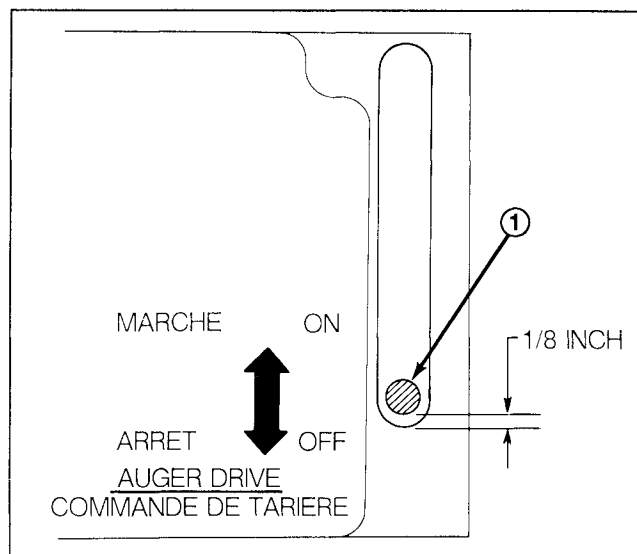

Figure 29
1. Move auger drive control backwards to OFF (disengage) (Fig. 29). **BACK EDGE OF AUGER DRIVE CONTROL MUST BE 1/8 INCH FROM REAR OF SLOT.**